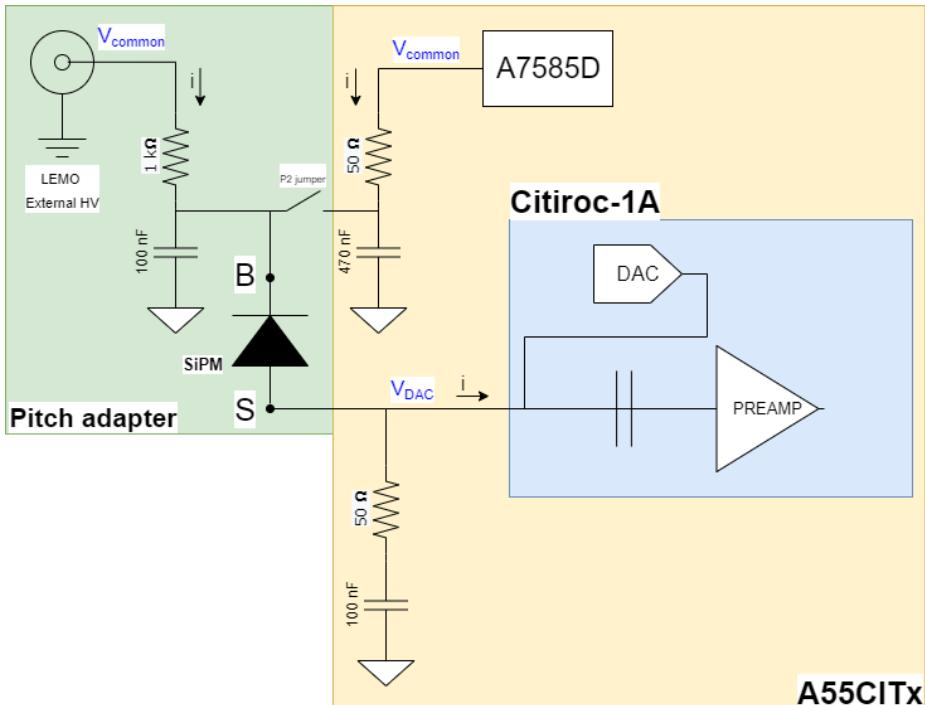

Figure 10.6: SiPM connection scheme to the ASIC and biasing lines when using the pitch adapter kit
The adapter provides 64 signal readout lines (S_x) and 64 sensor bias (B) lines. Each adapter has two 2.54mm-pitch strip connectors, each one exposing 32 bias/signal couples. Once the adapters are plugged in, the bias can be provided by the A7585D on the A55CITx board itself or externally through the LEMO HV connector available on the adapter. The jumper P2, if inserted, connects the bias pins to the DT5550W High Voltage generator while the LEMO connector is always connected to the Bias pins. The adapter is designed to optimize connections to SiPMs. Each detector has independent bias lines filtered with $1\text{k}\Omega$ resistor and 100nF capacitor, as shown in Figure 10.6.
External HV	LEMO HV. External High Voltage input for SiPM biasing. Connection to SiPMs cathodes as shown in Figure 10.6 . The external HV connector is always connected to the Cathode pins B